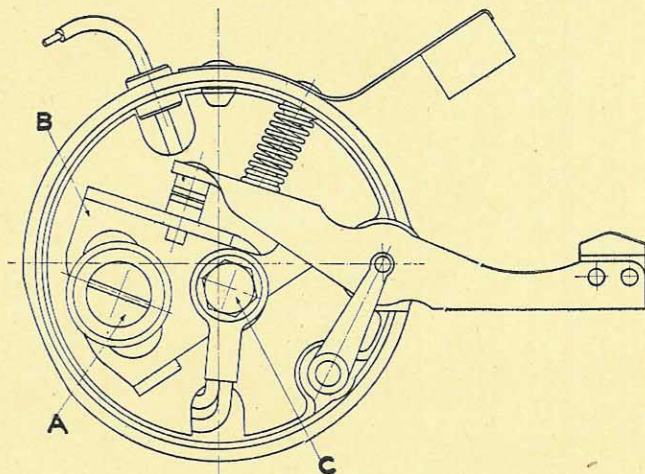

FIG. 16.—NEW TYPE CONTACT-BREAKER ASSEMBLY.
To adjust the point gap turn flywheel clockwise until rocker-arm is fully raised, undo screw A (Fig. 16) holding point bracket B and place between the contact points the feeler gauge fitted to the screwdriver which is supplied with every engine. When tightening the screw use the special screwdriver supplied with each engine. If a too large screwdriver is used, the thread of the screw is likely to be stripped. Should the thread in the rocker-box be stripped, an additional hole, adjacent to the hole in which the screw was originally fitted, is provided.
The condenser-box assembly for the new six-pole magneto is as illustrated in Fig. 16, needing only a screwdriver for point adjustment. It should be noted that the rocker arm itself is earthed, but that every care must be taken to see that the adjustable point plate is properly protected from the contact-breaker box itself, by: (1) the large circular insulating washer under the plate; (2) the small insulating washer under the